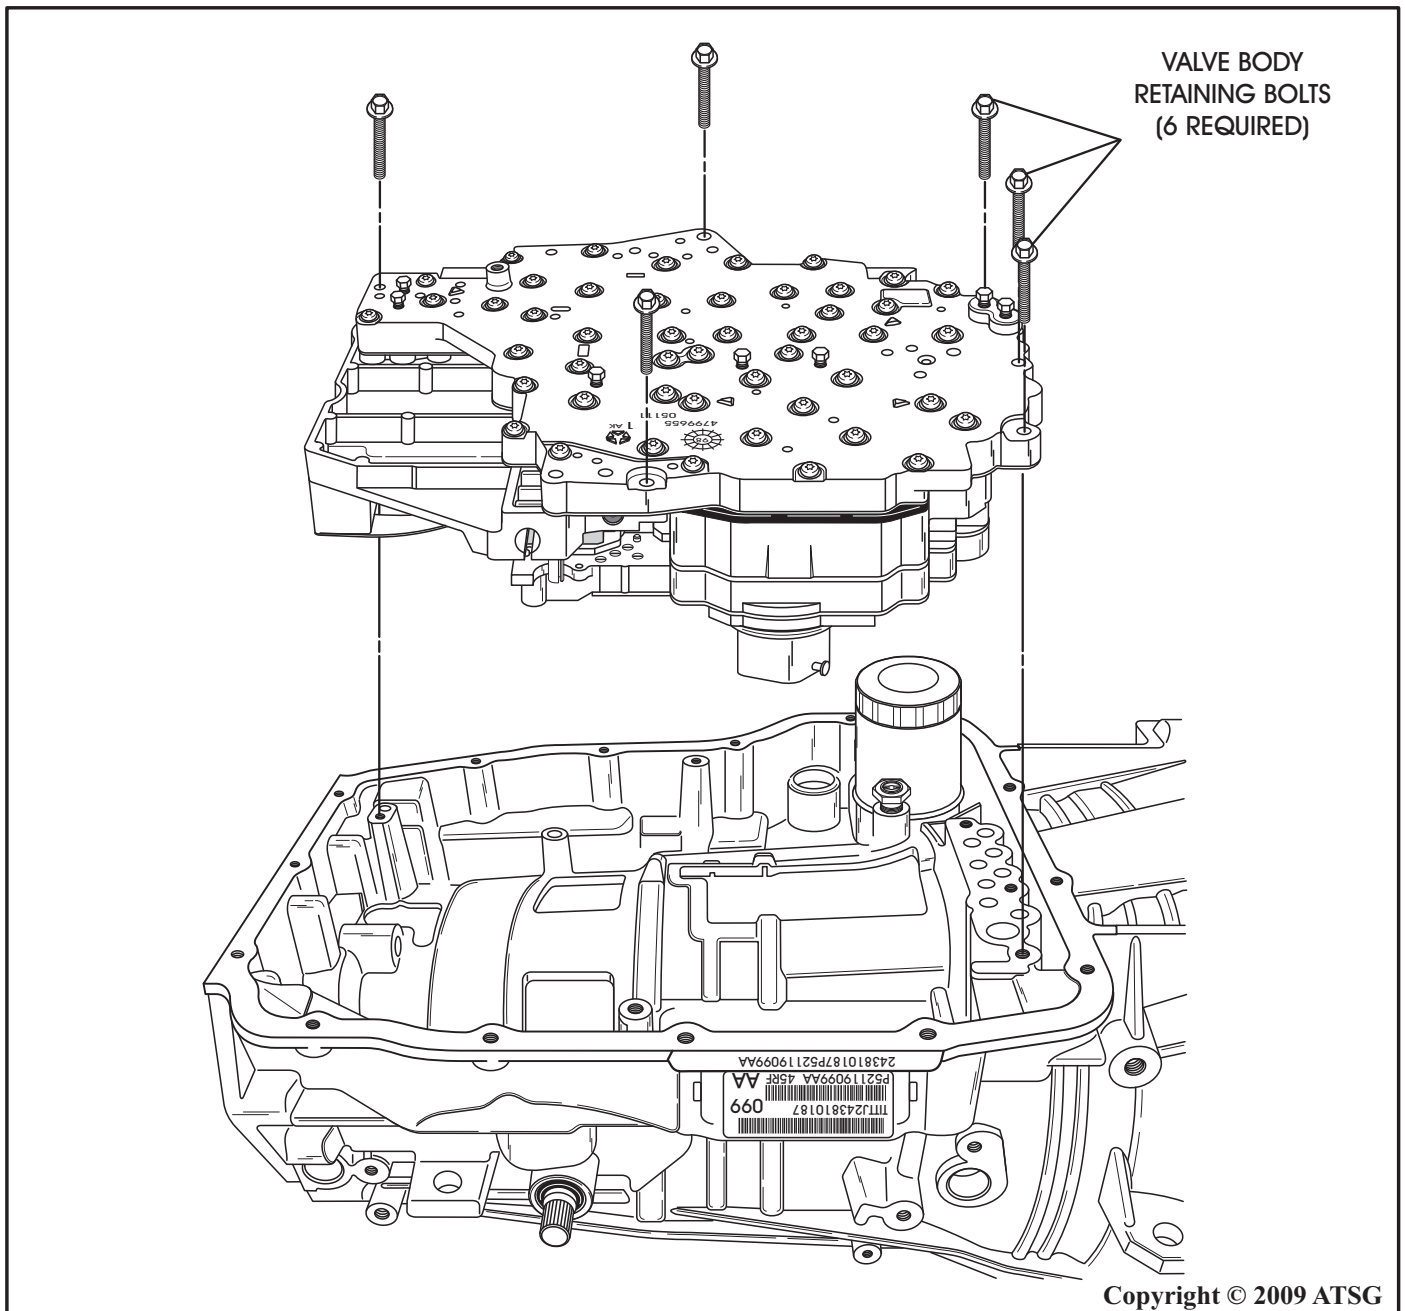

Figure 126
52. Install the pre-assembled valve body assembly as shown in Figure 126, using the 6 valve body to case bolts. Torque the valve body to case bolts to 12 Nm (105 in lb).